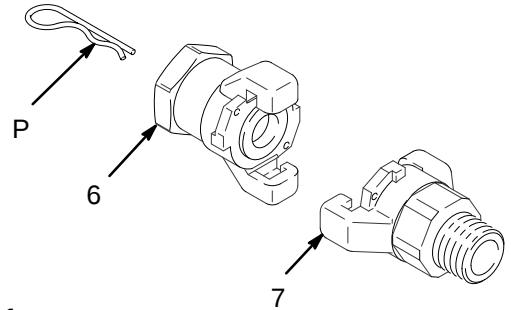

Fig. 1
Connect the female coupler to the male coupler and twist with a wrench to lock. Secure with the clip pins (P). See Fig. 1.